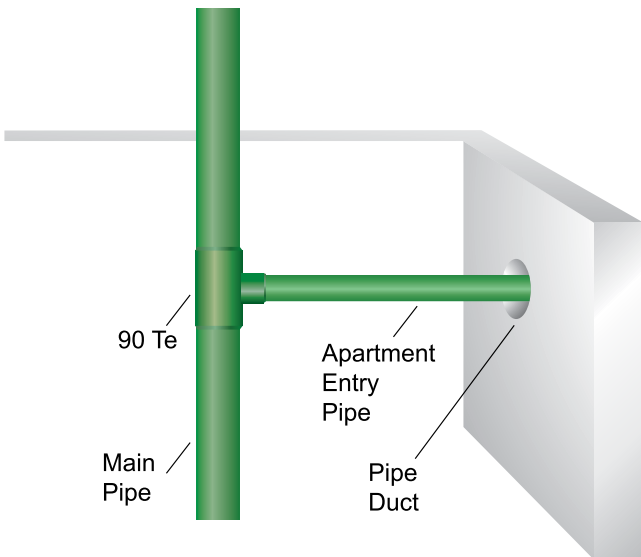

Figure 11.1
- 2) The hole diameter inside the wall should be bigger than the pipe diameter which passes through the wall as shown in Figure 11.1. The diameter of the hole must be specified in such a manner that the branch is able to move during expansion of the main pipe.